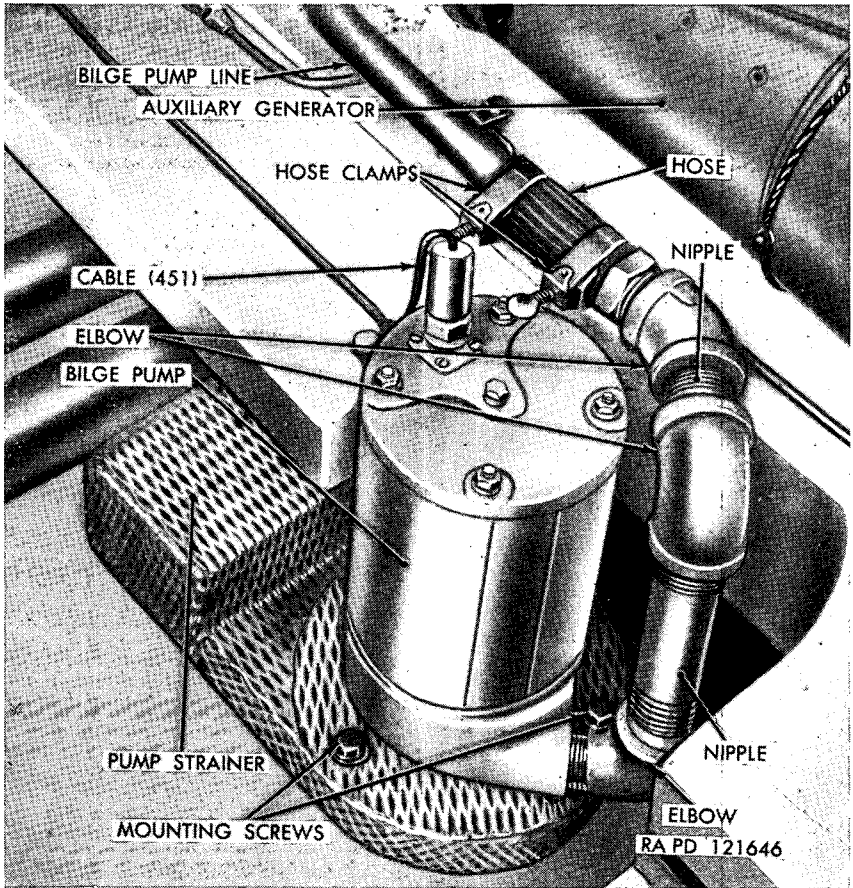

Figure 335. Rear bilge pump—installed view.
(1) *Description.* Two centrifugal-type pumps are provided in the hull to pump out any accumulated water, oil, or fuel. The front bilge pump is mounted in the crew compartment under the ration tray box (figs. 288 and 334) and the rear bilge pump is in the engine compartment, to the left of the auxiliary generator (fig. 335). The bilge pumps are driven by motors which are controlled by switches on the accessory panel (fig. 18). Strainers are provided to prevent debris from entering the pump base and impeller area. A tubing
b. REAR BILGE PUMP (fig. 335).
- (1) *Removal*. Removal of the bilge pump can be made either with the power plant out of the vehicle (par. 159) or with the power plant in the vehicle and the auxiliary generator and engine removed (par. 303). Unscrew the cable connector nut from the bilge pump. Loosen hose clamps and remove hose from the outlet line. Remove three mounting screws from bilge pump base and lift the bilge pump out of the vehicle. Disconnect fittings from pump.
- (2) *Service.* To clean the bilge pump strainer, remove the four screws which secure the strainer to the pump base and remove any foreign material which may be clogging the pump.
- (3) *Installation.* Connect fittings to bilge pump outlet. Position pump and install three mounting screws which secure bilge pump base to the hull floor. Connect hose clamp to secure outlet line to pump fittings. Connect electrical cable to the pump. Depending on what method was used to gain access to the bilge pump, either install the power plant (par. 160) or the auxiliary generator and engine (par. 303).